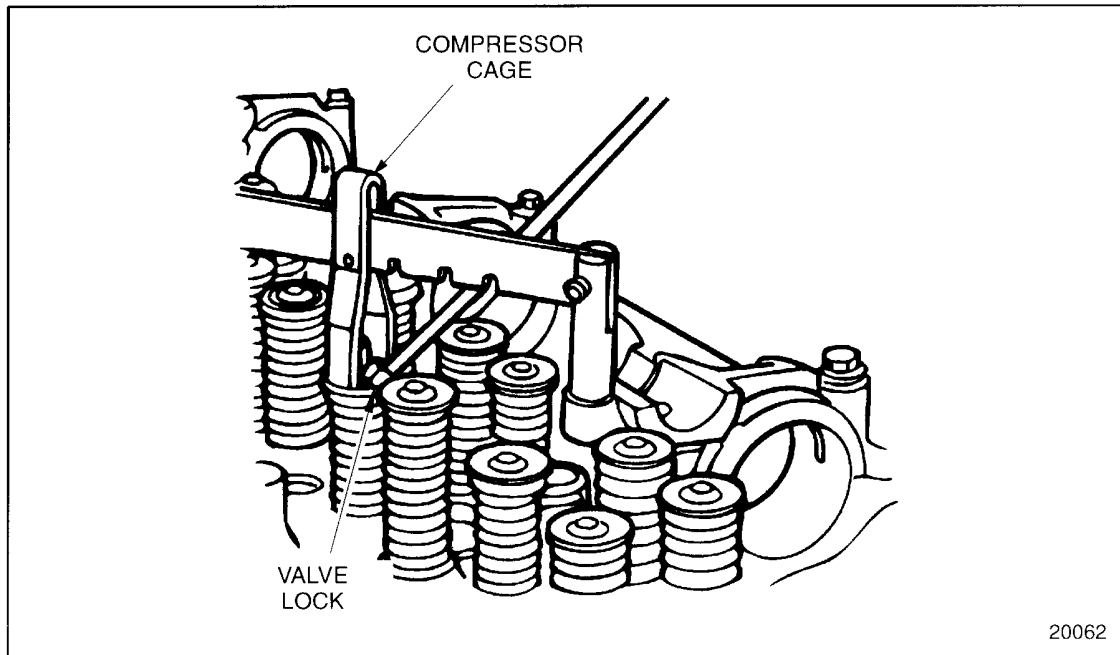

Figure 1-70 Compressing Valve Spring
7. Compress the valve spring and remove the valve locks using a small magnet to prevent the locks from falling into the cylinder head oil return galleries. See Figure 1-70.